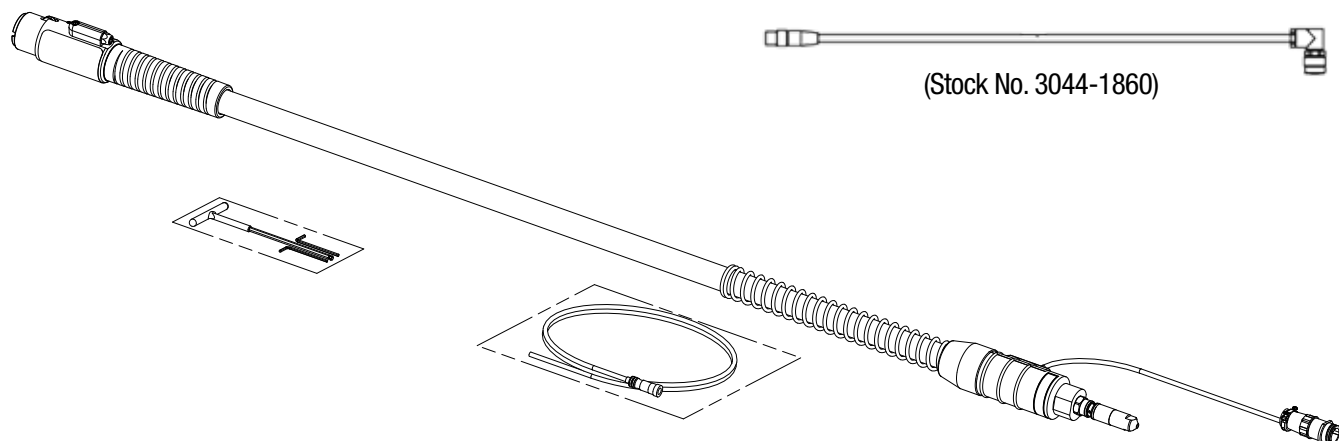

Figure 1: QRL Series “Air-cooled” Assembly
2. Check to ensure all items, shown in Figure 1 are located and identified. If any of the component parts are missing, please notify the local Tweco® Welding Distributor or Tweco® Products Customer Care Department at 1-800-426-1888.